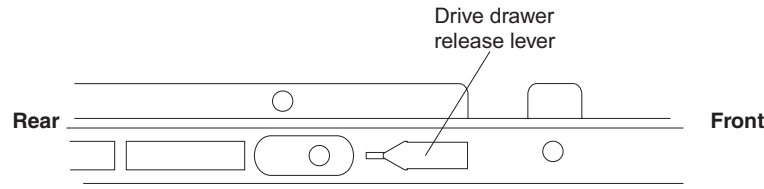

Figure 96. Drive drawer release lever on the side of the drive drawer
- b. Slide the drive drawer release lever (see Figure 96) on both sides of the drive drawer toward you, and remove the drive drawer from the enclosure.